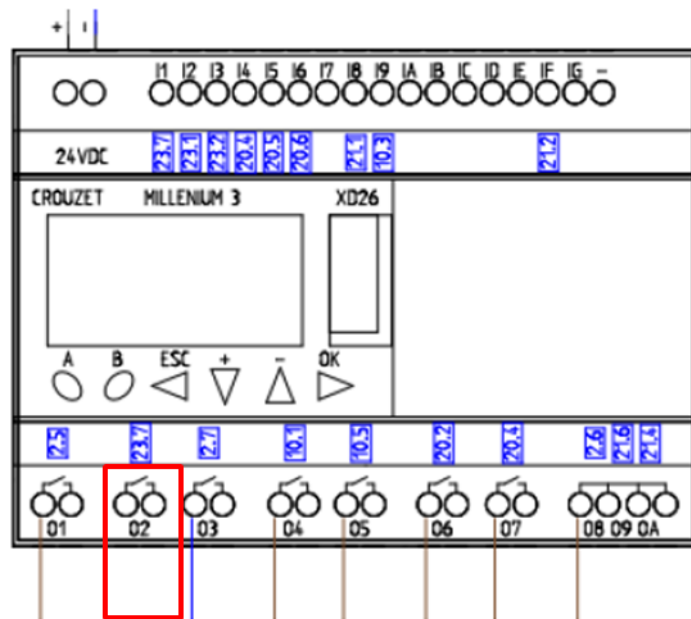

Figure 23: Connection of alarm output at Crouzet controller Output 2
- Connect alarm cable at following outputs at Crouzet controller: **O2**. Please see Figure 23.